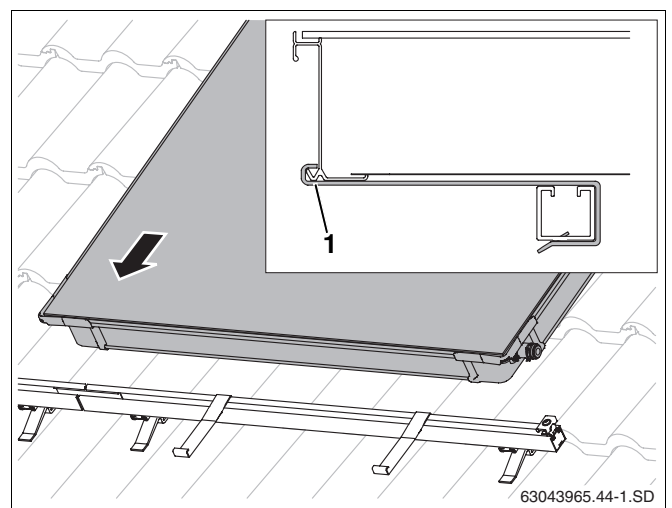

Fig. 43 Laying the first collector on the profile rails
- Place the first collector onto the profile rails and allow it to slide into the anti-slip protectors (Fig. 43).
The lower collector edge must lie in the opening of the anti-slip protector (Fig. 43, **Item 1**).